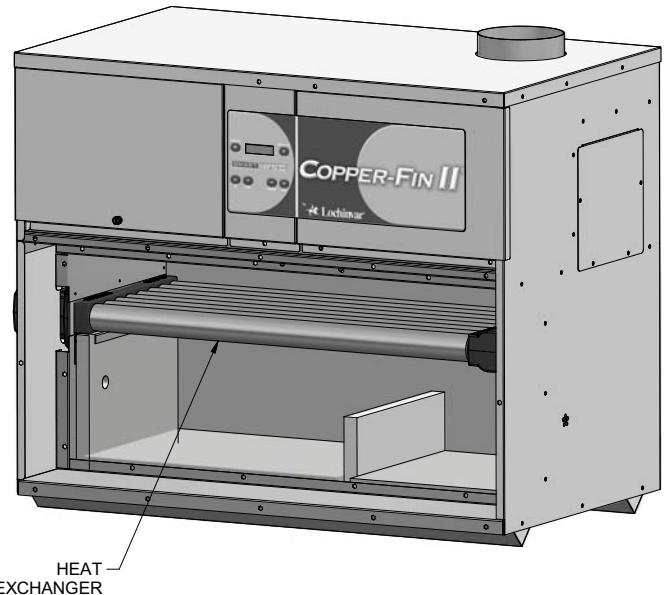

Figure 2-5 Location of the Heat Exchanger Inside Jacket
10. Check “V” baffles along the front and back edges of the heat exchanger (FIG. 2-5). Remove and clean if necessary.